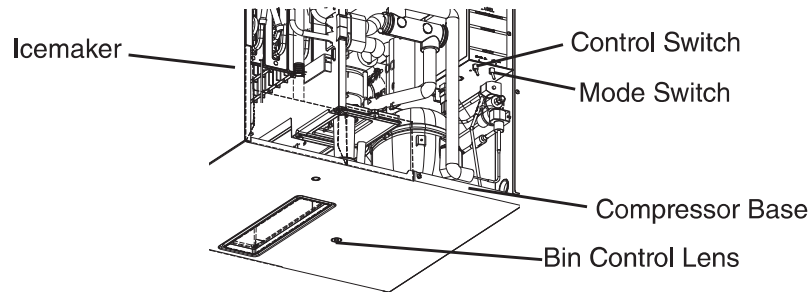

Fig. 21
- 6) 1 min. fill cycle begins. Place an object 5" to 7" (127 to 178 mm) away from the bin control lens. See Fig. 21. 15 sec. later, the icemaker shuts down. Remove the object from the bin control lens. 30 sec. later, the icemaker restarts.